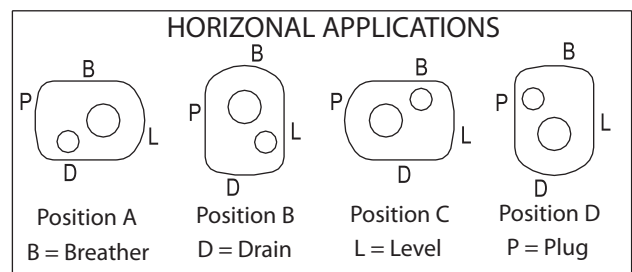

Figure 1 – Mounting Positions
2. Determine the running positions of the reducer (see Fig. 1). Note that the reducer is supplied with either 4 or 7 plugs; 4 around the sides for horizontal installations and 1 on each face for vertical installations. These plugs must be arranged relative to the running positions as follows:
The running position of the reducer in a horizontal application is not limited to the four positions shown in Figure 1. However, if running position is over 20° either way from sketches, the oil level plug cannot be safely used to check the oil level, unless during the checking the torque arm is disconnected and the reducer is swung to within 20° in positions “B” and “D” or 5° in positions “A” and “C” of the positions shown in Figure 1.
① Refer to Fig. 1 on page 2 for mounting positions
② U.S. Measure: 1 quart = 32 fluid ounces = .94646 liters.
NOTE: If reducer position is to vary from those shown in Figure 1 either more or less oil may be required. Contact Dodge Product Support.